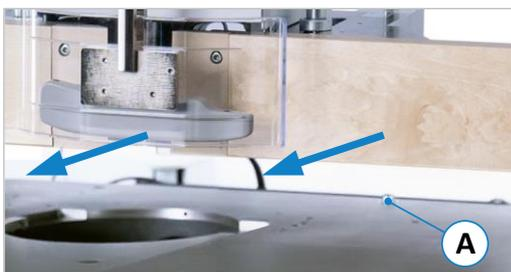

Figure 22: Move centrally over milling spindle
- Move the fence over the machine table with the help of a second person, with a suitable hoist or with the optional swivel-away device so that it is approximately centred over the milling spindle (see ⇒ Figure 22).